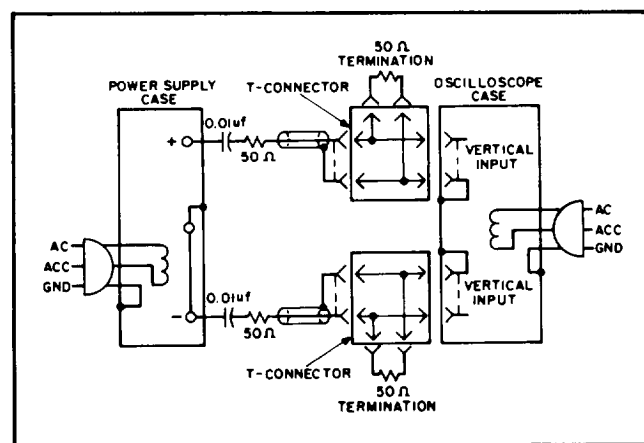

Figure 5-7, CV Noise Spike, Test Setup
- As shown in Figure 5-7, two coax cables, must be substituted for the shielded two-wire cable.
5-33 The circuit of Figure 5-7 can also be used for the normal measurement of low frequency ripple and noise; simply remove the four terminating re-
sisters and the blocking capacitors and substitute a higher gain vertical plug-in in place of the wide-band plug-in required for spike measurements. Notice that with these changes, Figure 5-7 becomes a two-cable version of Figure 5-6C.